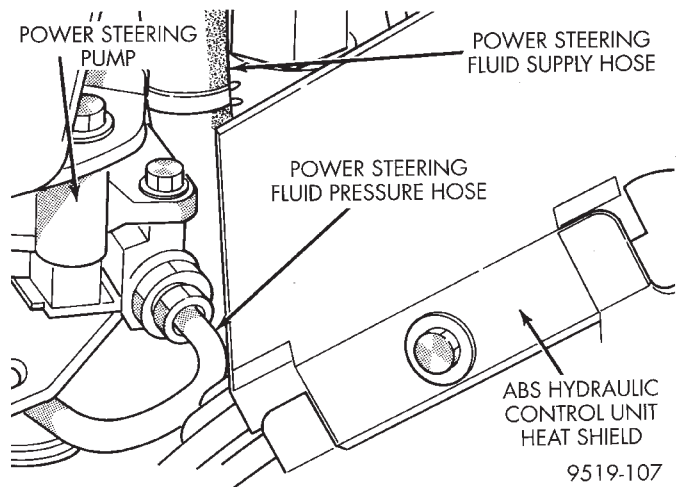

Fig. 5 Power Steering Pump Pressure Hose
(1) Remove the power steering fluid pressure hose from power steering pump pressure fitting (Fig. 5).
- (4) Install power steering fluid pressure hose on flow control valve fitting (Fig. 5). Tighten the tube nut to a torque of 31 N·m (275 in. lbs.).